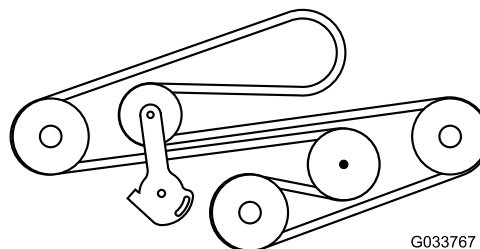

Figure 72
9. Install the belt and route it as shown in Figure 72.